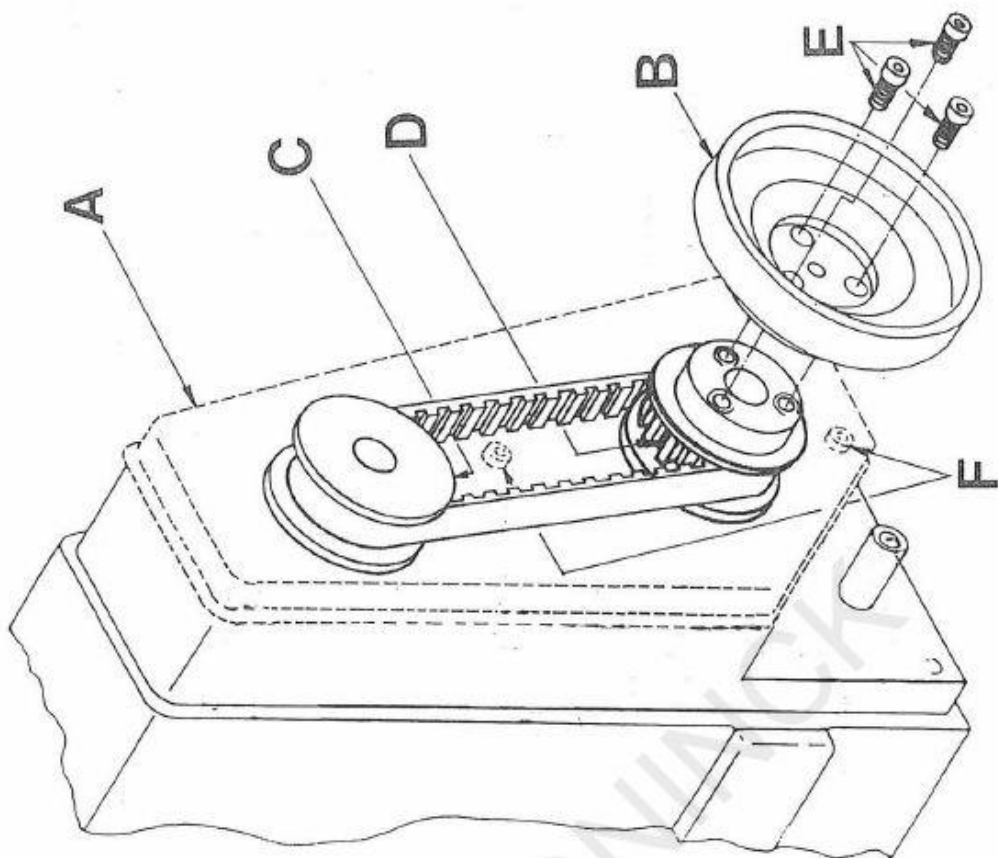

Fig 11
2. Unscrew 3 x E (see Fig 11 ) and remove the wheel B